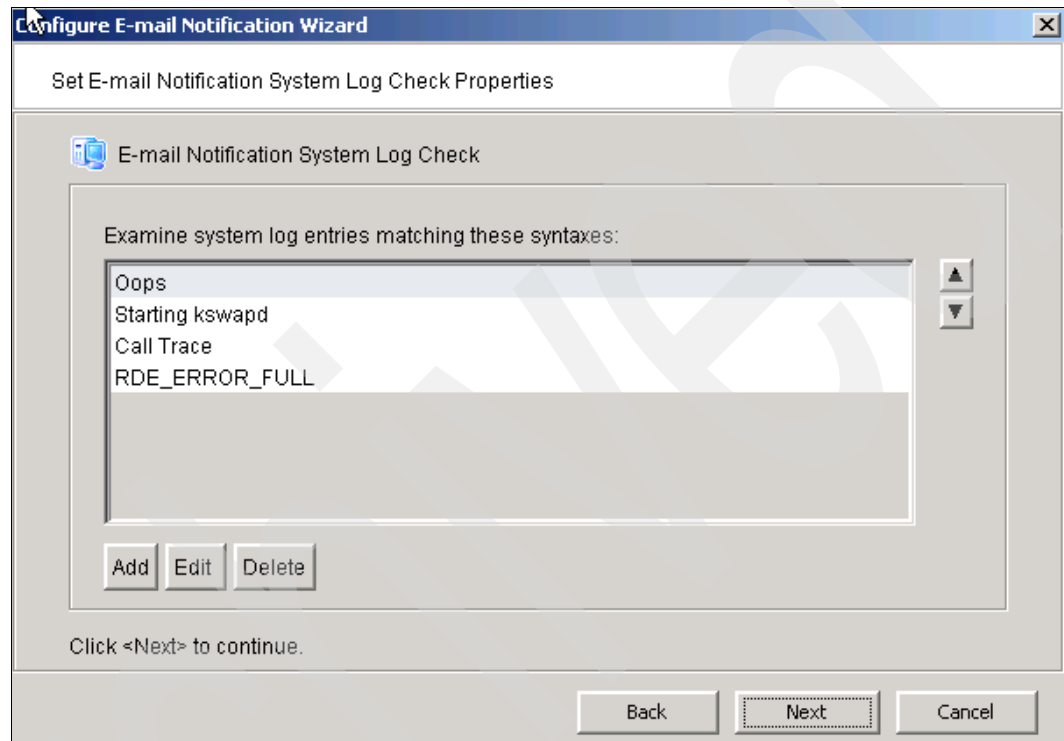

Figure 11-19 E-mail notification system log check
7. In the next panel (Figure 11-19) you can add which entries to look for in the event log. If any of the events match the syntax then the information is captured as part of the details sent to the person or group configured to receive the e-mail notifications.